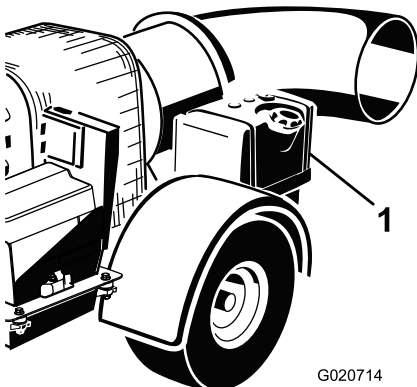

Figure 8
2. Clean the area around the fuel tank cap and remove the cap (Figure 8).